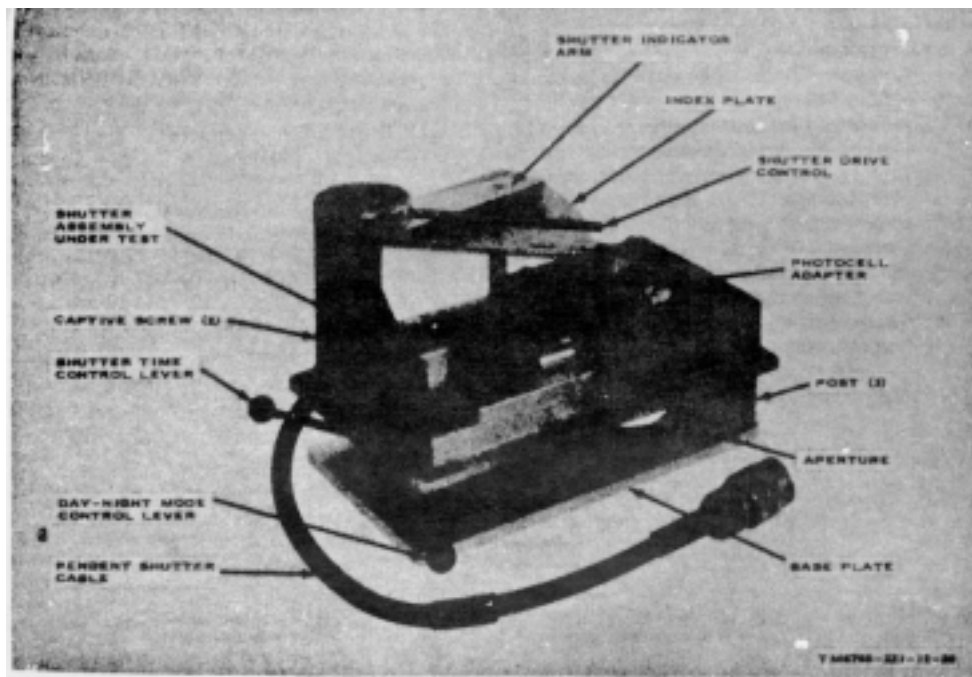

Figure 20. Use of shutter alignment fixture.
38. Use of Shutter Alignment Fixture (fig. 20)